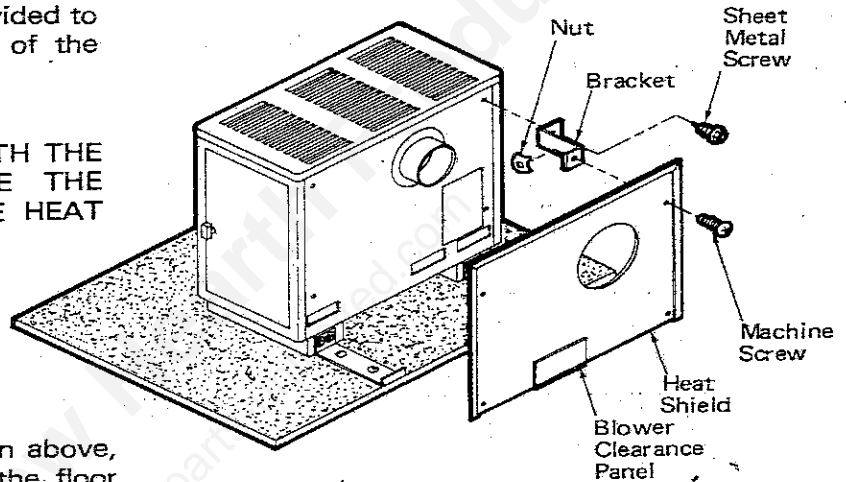

FIG. 15
6. After installing the chimney and cutting the 6-1/2" dia. hole in the floor for the inlet air, mount the wall shield to the heater using the instructions applying to Figure 15 on Page 15.
2. The shield is assembled using the four (4) brackets with nuts and machine screws that are provided in the parts bag.
3. The brackets are assembled to the shield as shown in Fig. 15.
4. The shield is positioned as shown in Fig. 15. The 10½" dia. hole is to be positioned directly over the flue collar.
5. Use the four (4) sheet metal screws provided to attach the shield to the cabinet back of the heater.